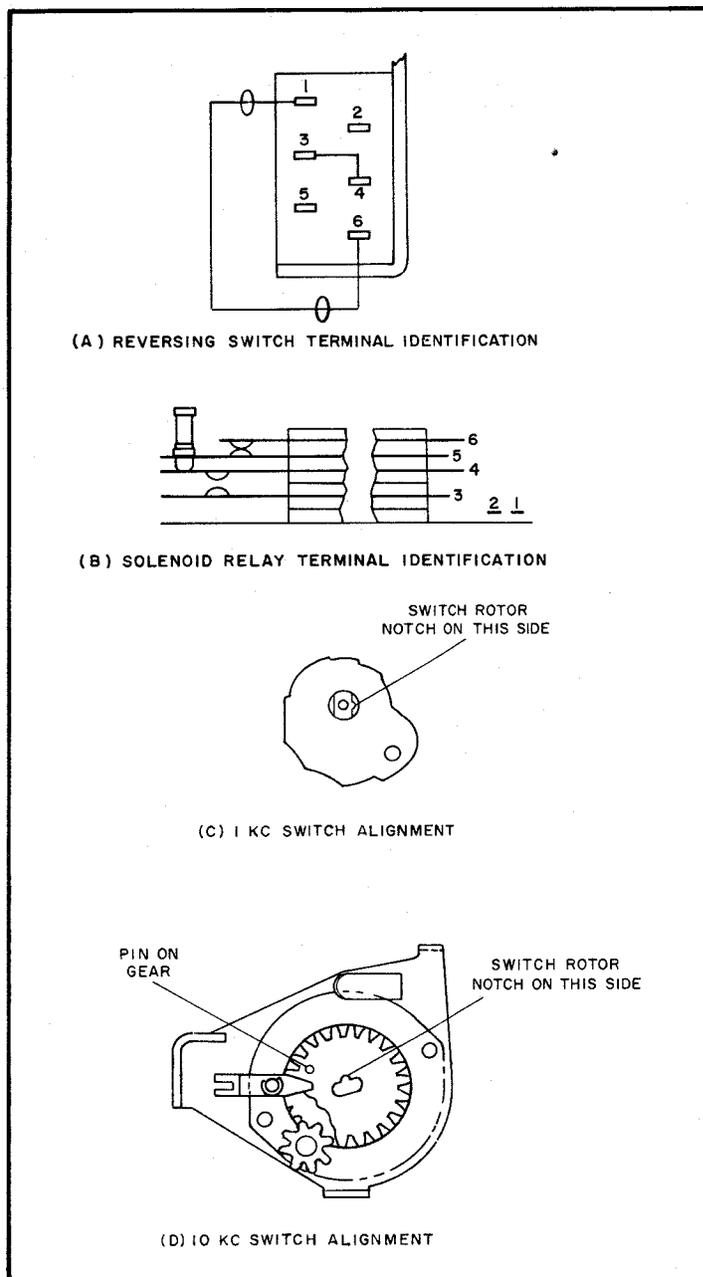

Figure 6-32. Autopositioner, Mechanical Adjustment, Alignment, and Checks
6-215. Align and check the mechanical component of the Autopositioner subassembly by performing the following procedure (see figure 6-32).
c. Check that gap between contacts 3 and 4 on solenoid relay (with pawl in notch) is at least 0.015 inch (figure 6-32 (B)).
back to OFF. The clutch gear should then rotate clockwise as viewed from gear-plate side. With leaf in opposite position, clutch gear rotation should be in opposite direction. If directions of rotation are improper, rewire reversing switch as shown in figure 6-32(A).